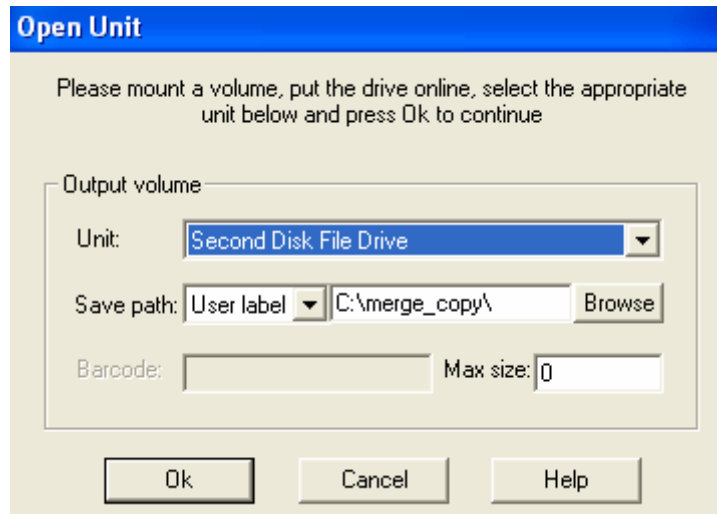

Figure 86: Open Unit Dialog Box/Output for Tape Merge
3. Allocate (open) output unit: To allocate an unallocated unit, press the button in the unit column that is on the row of the unit to be allocated under the Output Block. APS will present the open unit dialog box to allow the user to select a tape unit and then allocate the unit. The dialog box is shown in Figure 86: Open Unit Dialog Box/Output for Tape Merge.